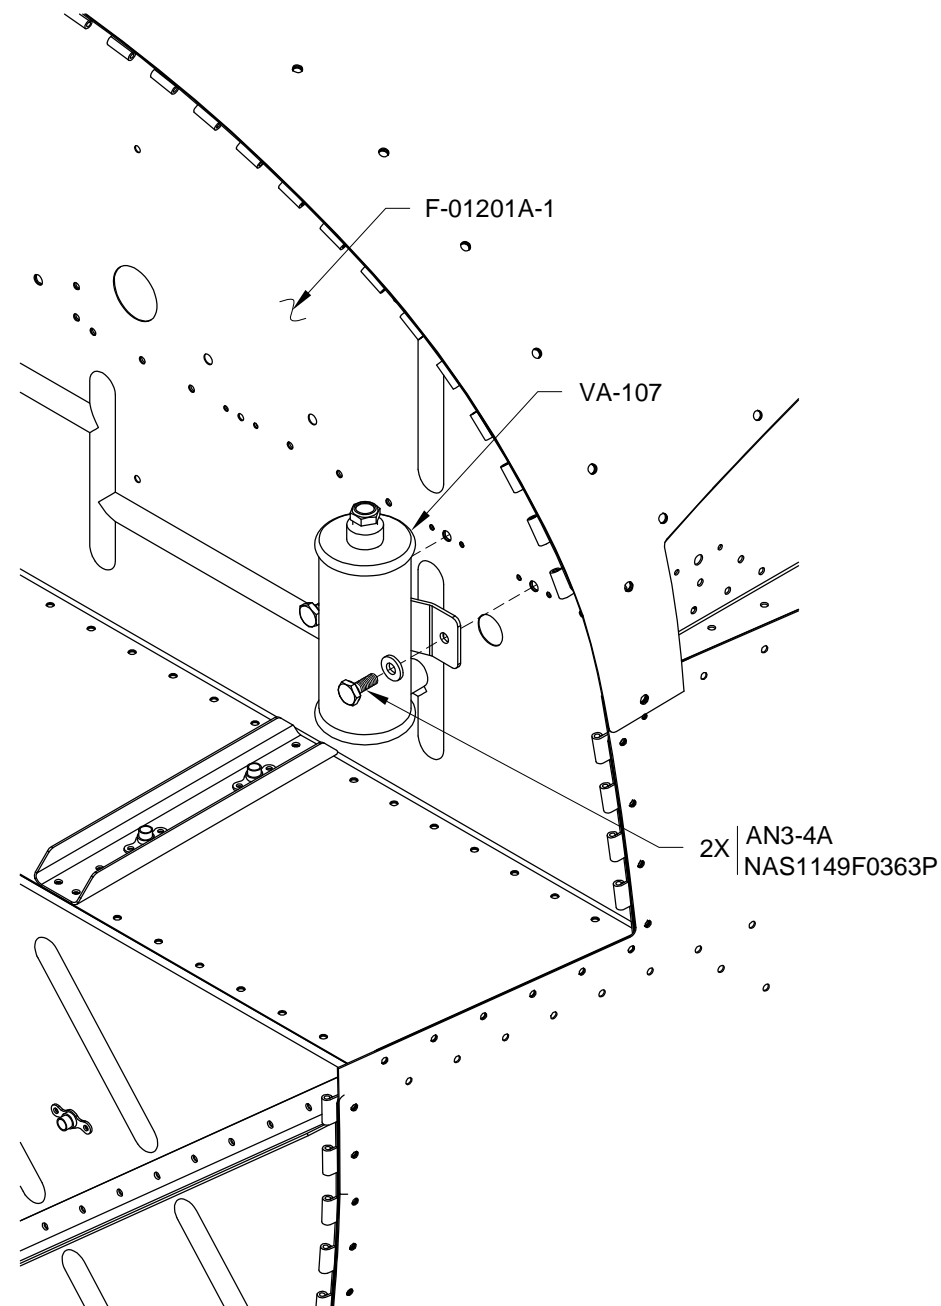

FIGURE 1: ATTACHING THE BRAKE RESERVOIR
Step 1: Bolt the VA-107 Brake Reservoir to the F-01201A-1 as shown in Figure 1.